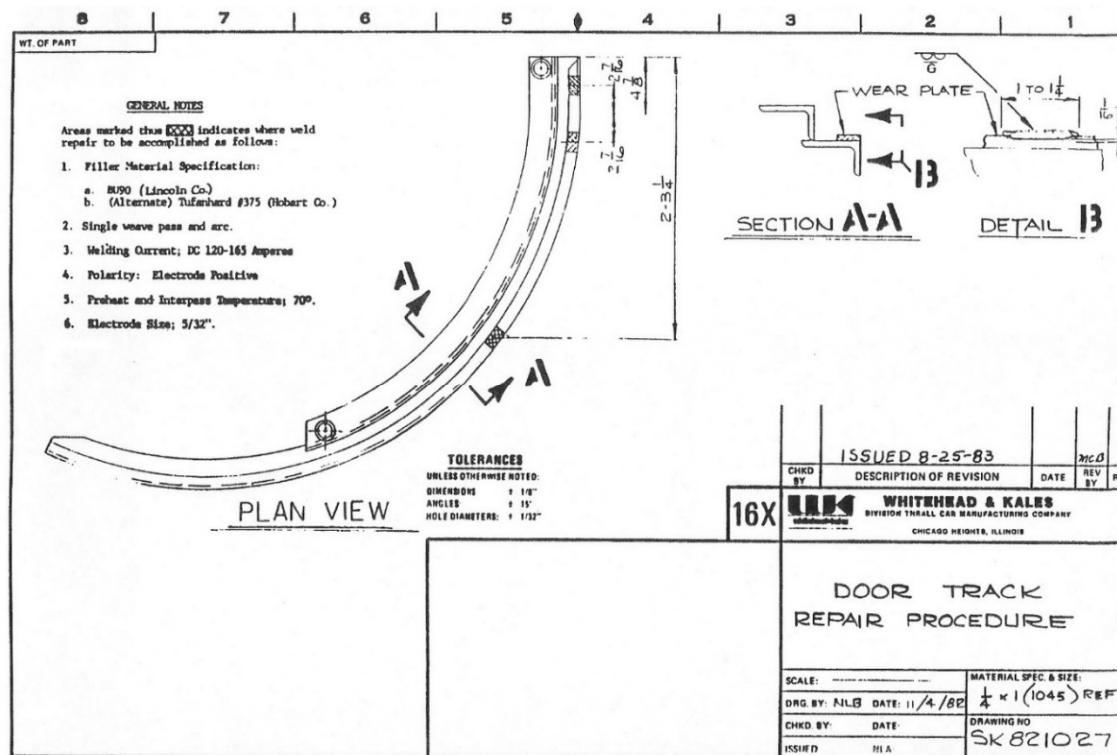

Figure 2.
(Refer to Figure 2)
1. All grooves in the bottom door track wear plate should be welded and ground smooth as described in Figure 2.